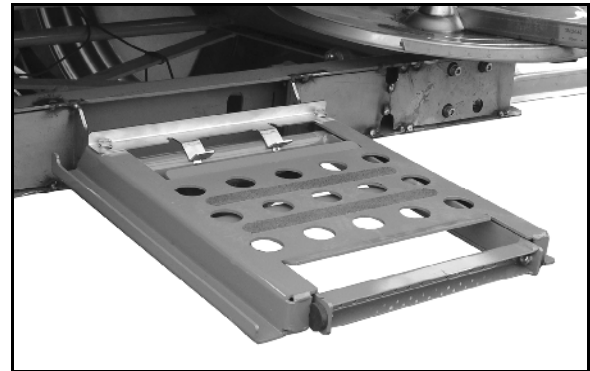

Fig. 39
- If the ladder is no longer needed, swing it up (Fig. 39) and slide it forwards, along with the platform.